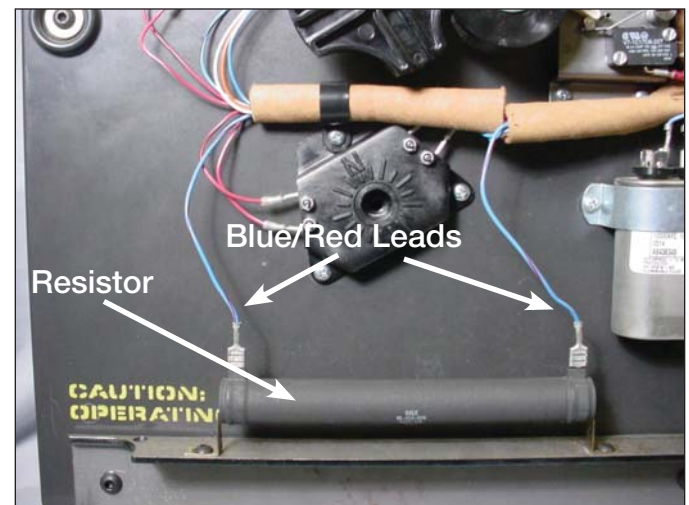

Figure 43.
- Connect the blue wires with red stripes to the 40-ohm resistor by pushing the female connector onto the resistor terminals. See Figure 43.